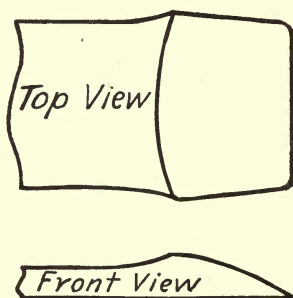
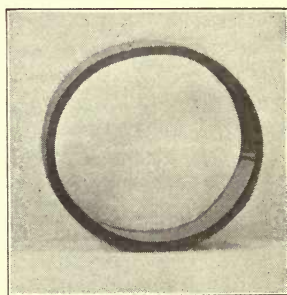

FIG. 39. SCARF OF PILE BAND.
FIG. 40. PILE BAND.
3. The pile band is made just like the welded ring except that the scarfs are shaped as shown in Fig. 39. The end of the scarf is edged but not pointed. Fig. 40 shows the completed pile band.